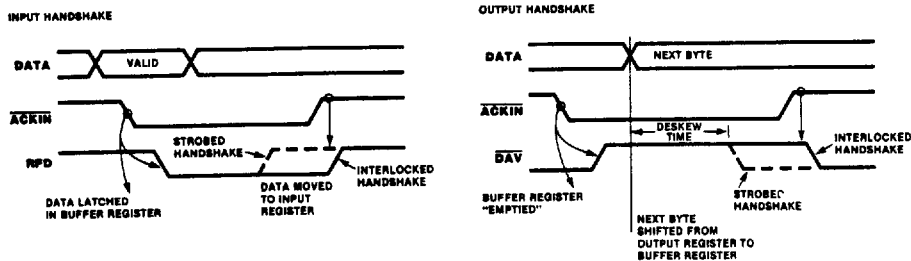

Figure 7. Interlocked and Strobed Handshakes
**Interlocked Handshake.** In the Interlocked Handshake mode, the action of the Z-CIO must be acknowledged by the external device before the next action can take place. Figure 7 shows timing for Interlocked Handshake. An output port does not indicate that new data is available until the external device indicates it is ready for the data. Similarly, an input port does not indicate that it is ready for new data until the data source indicates that the previous byte of the data is no longer available, thereby acknowledging the input port's acceptance of the last byte. This allows the Z-CIO to interface directly to the port of a Z8 microcomputer, a UPC, an FIO, or a FIFO, or to another Z-CIO port with no external logic.
**Strobed Handshake.** In the Strobed Handshake mode, data is "strobed" into or out of the port by the external logic. The falling edge of the Acknowledge Input ( $\overline{\text{ACKIN}}$ ) strobes data into or out of the port. Figure 7 shows timing for the Strobed Handshake. In contrast to the Interlocked Handshake, the signal indicating the port is ready for another data transfer operates independently of the  $\overline{\text{ACKIN}}$  input. It is up to the external logic to ensure that data overflows or underflows do not occur.